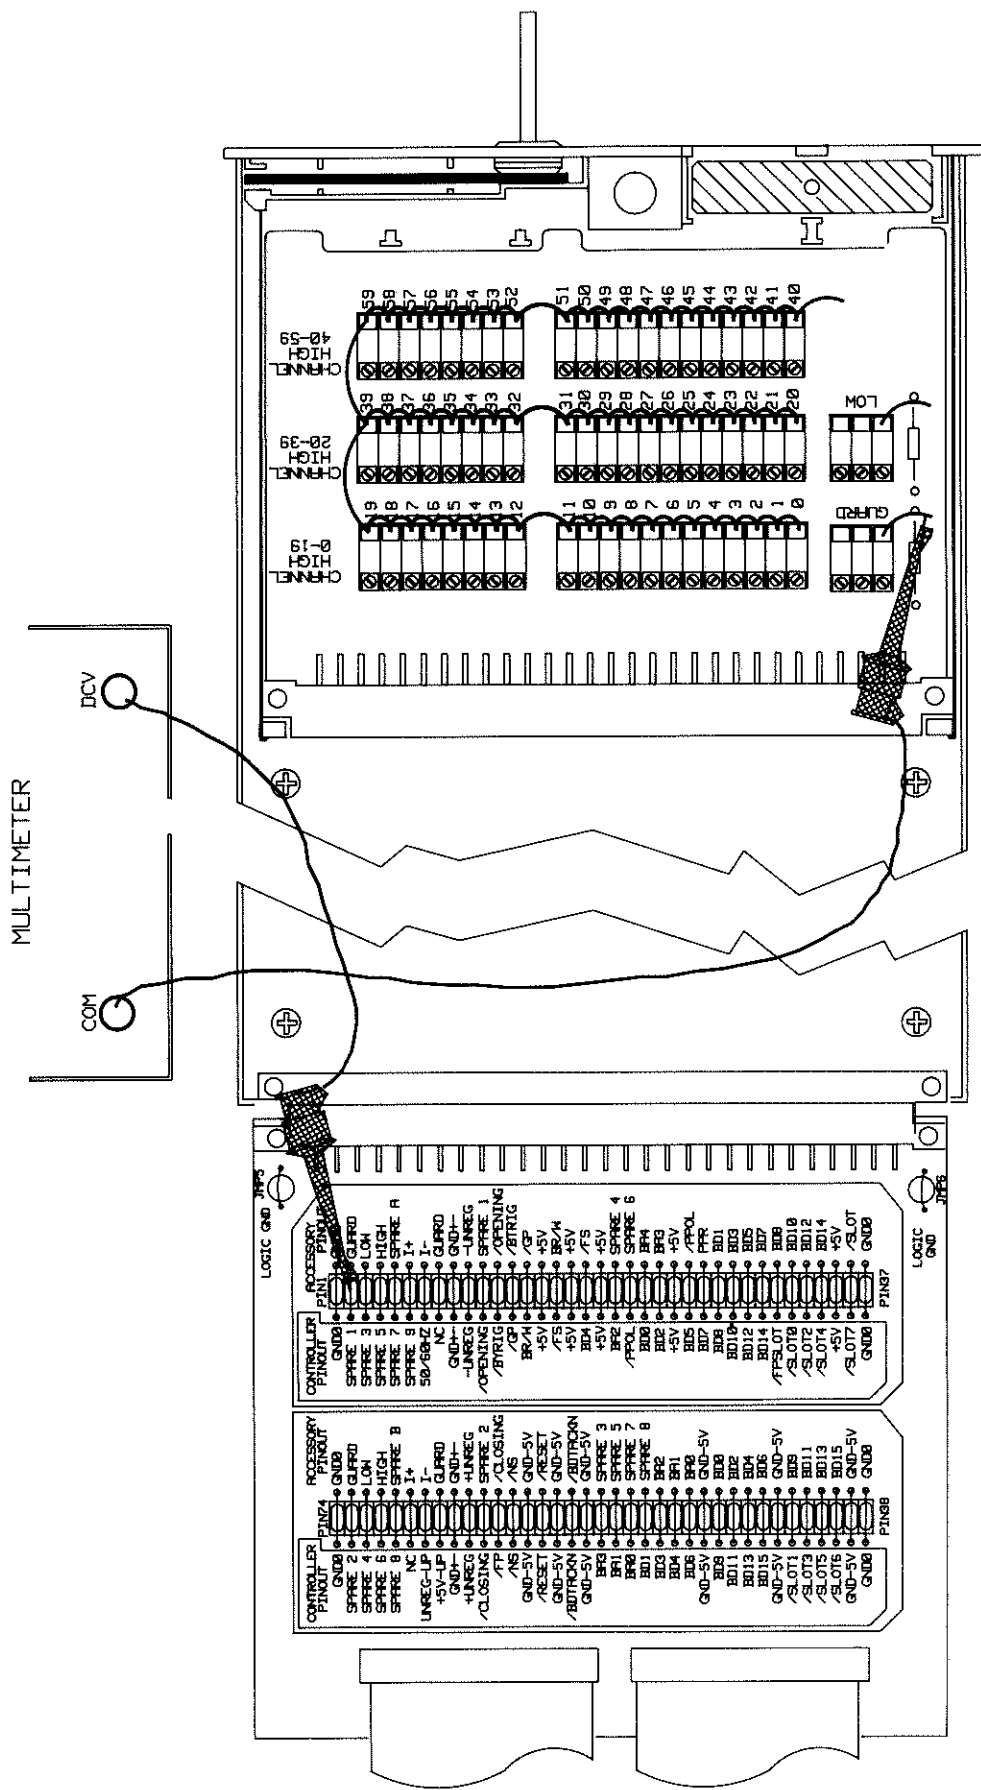

Figure 8-47 HP 44706A GUARD LINES Thermal Offset
13. Refer to Figure 8-47. Connect the multimeter test leads between the GUARD test connection on the test fixture and the backplane analog bus GUARD line on the service module.